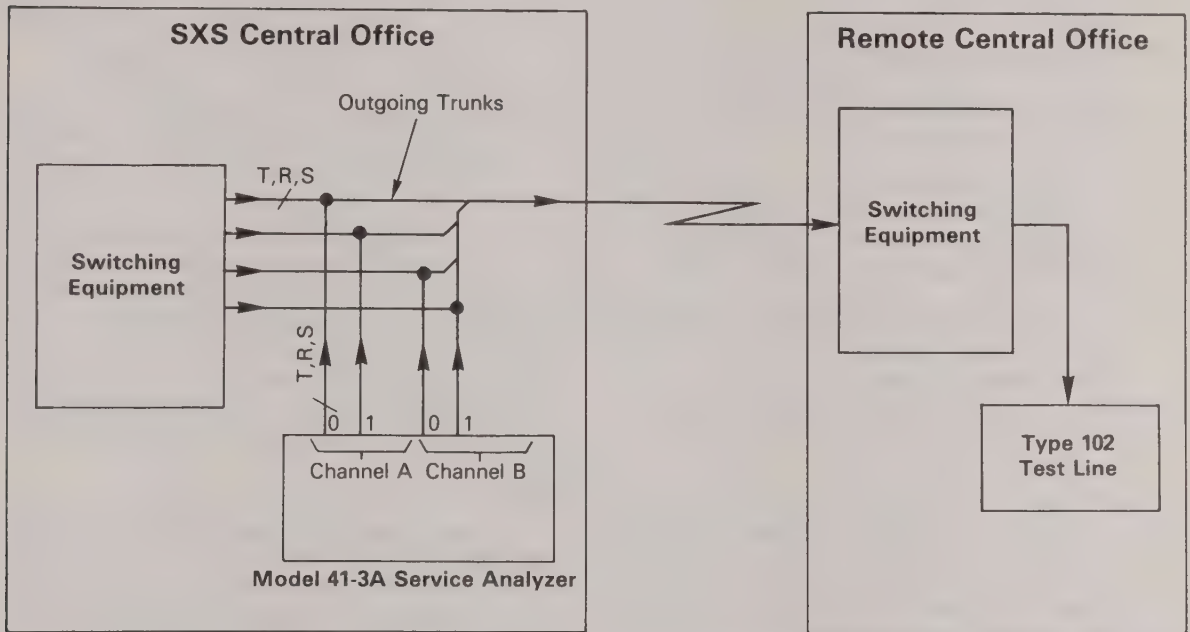

Fig. 15—Routing Outgoing Trunks
3.65 The analyzer can be connected to outgoing trunks as shown in Fig. 15. If less than 16 trunks are to be tested, they should be evenly divided between channel A and channel B. This allows troubleshooting a held line on one channel, while testing progresses on the other channel.